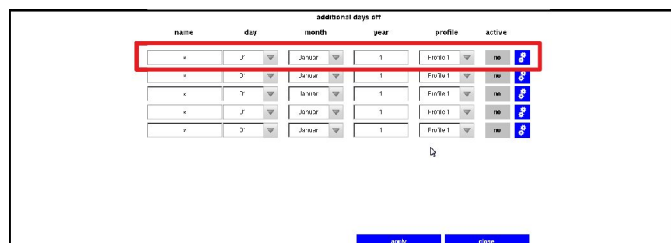

Fig. 35: Setting 'additional days off' (additional holidays)
2. ▶ Press  (Fig. 35) for an 'official day off' (public holiday).
4. ▶ Press 'active' (Fig. 35) to activate the 'additional day off' (additional holiday).